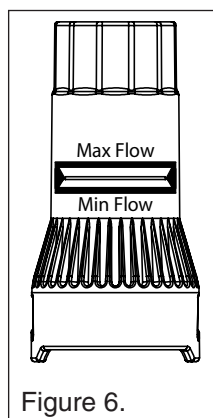

Figure 6.
3. Verify the white plunger (inside the flow gauge) is aligned within the box on the flow gauge. **See figure 6.**